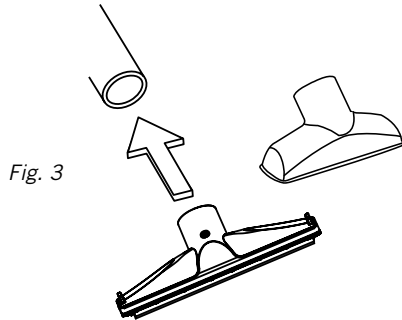

Fig. 3
- Choose the desired accessory **17** **18** and/or extension wands **16** and insert onto the end of the hose **15**. **Fig. 3**.